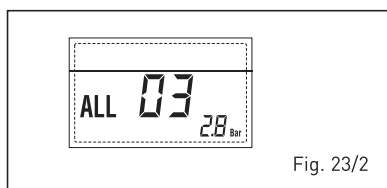

Fig. 23/2
– **ANOMALIA Sonda IDA AQUECIMENTO “ALL 05” (fig. 23/4)**